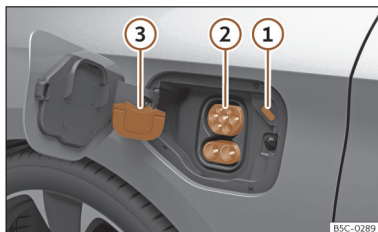

Fig. 63 Behind the battery charging cover on the rear right-hand side.
- Remove the protective cap and hang it on the hook >>> **Fig. 63 ③**
- Plug the charging station's charging connector into the charging socket >>> **Fig. 63 ②**
The LED (charging process indicator) of the charging socket flashes or flashes white >>> **Fig. 63 ①** >>> page 87
The charging process indicator on the charging socket ① flashes green >>> **Fig. 63.**
- Tap the **Stop charging** function button on the infotainment system display. The charging process indicator located next to the charging socket ① lights up white >>> **Fig. 63.** The charging connector is unlocked.
- Place the protective cap on the charging socket's lower connection >>> **Fig. 63 ③**